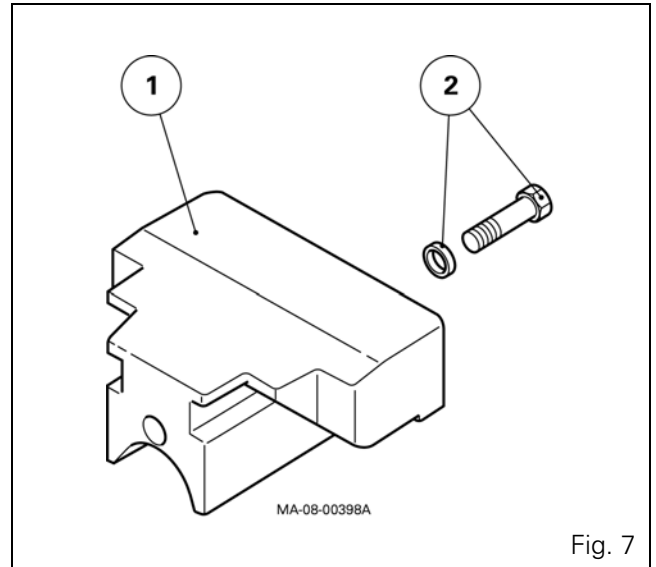

Fig. 7
- In certain conditions, the centre weight (1) of 100 Kg (Fig. 7) can obstruct the removal of the bearing support. In this case, remove the internal parts at the lower part of the grille to gain access to the weight. Take out the central attachment screw M20 (2) (Fig. 7) and lift the weight slightly using a suitable lifting tool to release it from the support.